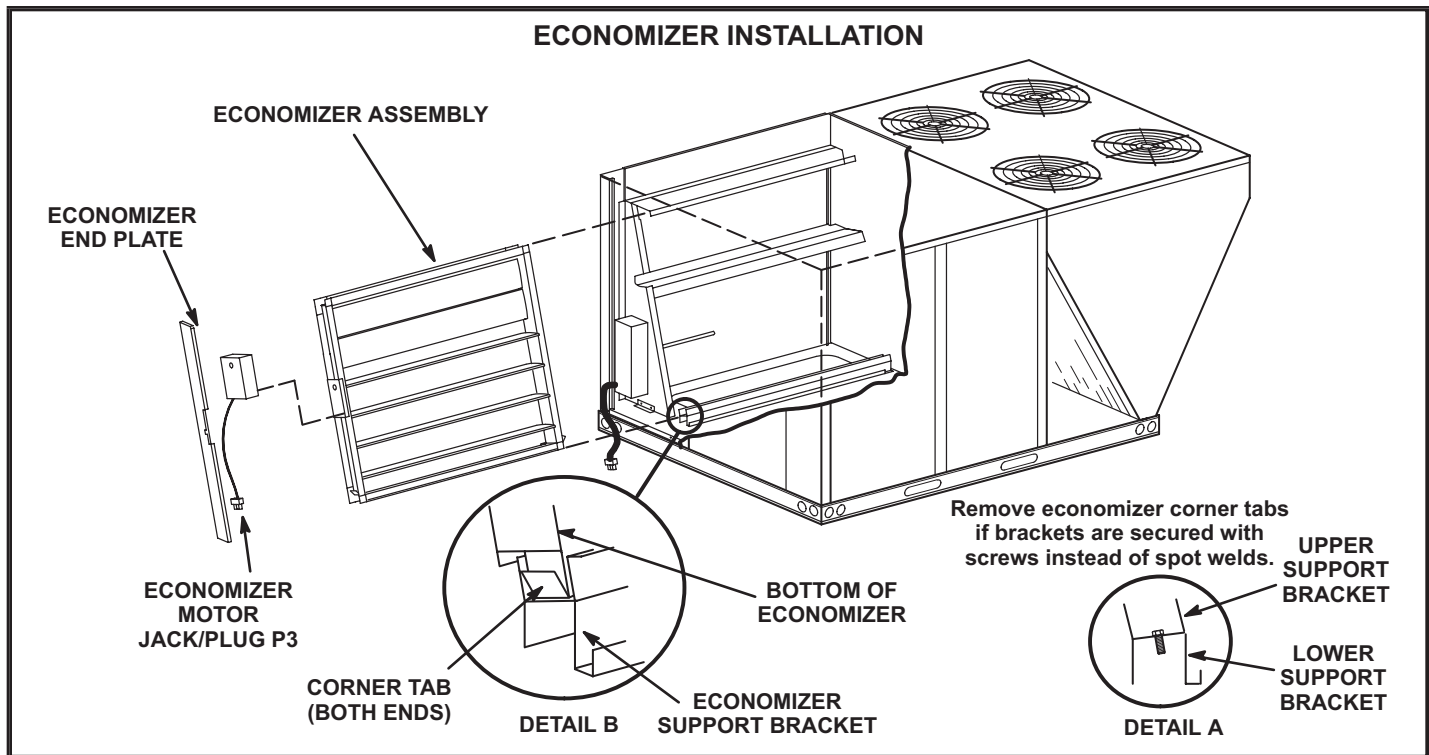

FIGURE 1
- 3 - Remove corner tabs from both ends of the economizer support bracket when the upper bracket is secured to the lower bracket with screws. Leave the tabs in place when brackets are spot-welded together. See FIGURE 1 detail A and B.
- 4 - Align bottom of economizer with economizer support bracket and slide economizer into unit. See FIGURE 1.